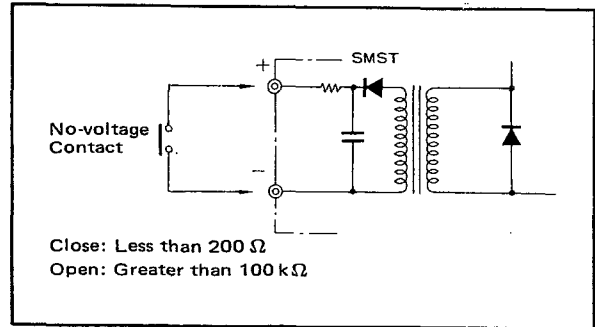
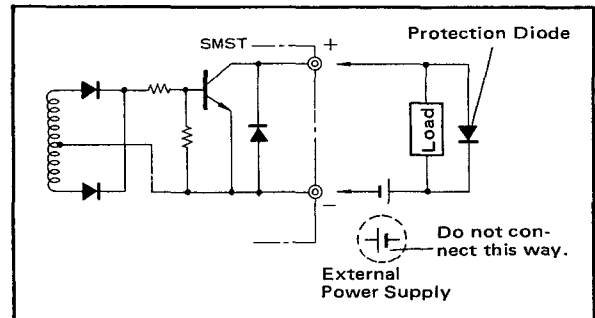

Figure 3-1. External Contact Input Connections.
Figure 3-3. Contact Output Connection to External Load.
- (1) Furnish all cable ends with solderless crimp-on lugs.
- (2) Connect external voltage-and/or no-voltage-levels contact input so that the values specified in Figures 3-1 and 3-2 are obtained. Conductor resistance and consequent voltage drop must be taken into account. For contact input specifications, refer to GS 1B4D3-E at the end of this manual.
- (3) When driving remote equipment such as fail and alarm outputs, using transistor switch contacts, wire in accordance with the following instructions.
- Connect a protection diode (surge absorber) in parallel with inductive loads such as relays to protect the transistor switch from transients when energizing or deenergizing external circuits. (See Figure 3-3).
- Match the power polarity to the terminal markings when connecting the power supply used to drive the external equipment. (See Figure 3-3).